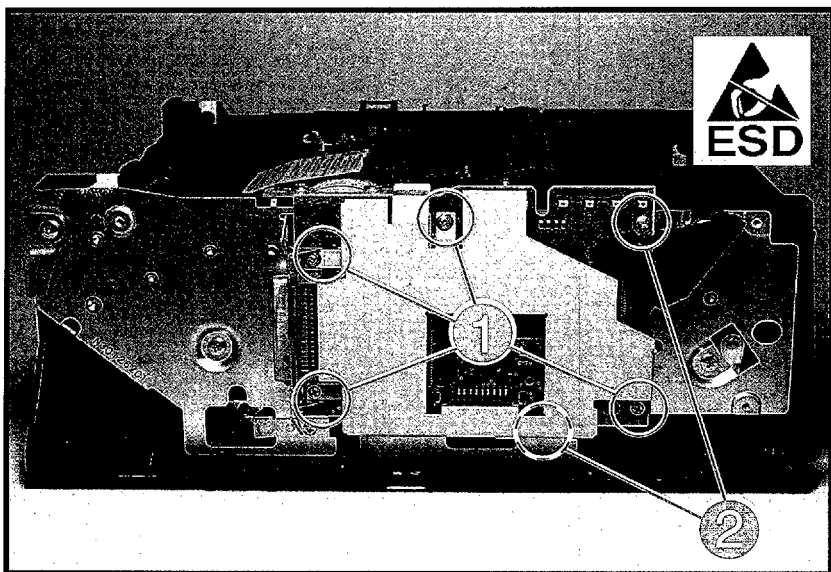

Figure 6-13 Removing the Formatter Shield and PCA (LaserJet 4L shown)
2. Remove the screws that hold the RFI shield in place and lift the shield off (Figure 6-13, callout 1 for LaserJet 4L).
3. Remove any remaining screws on the Formatter PCA (Figure 6-13, callout 2 for LaserJet 4L).
1. Remove the Printer Cover and Formatter PCA (Figure 6-13).